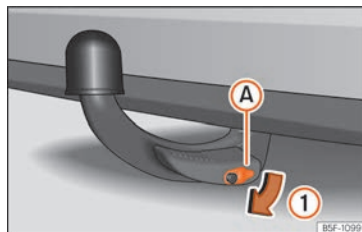

Fig. 299 Removing the lock cover.
- Remove cover (A) from the lock in the direction of arrow (1) »» Fig. 299.